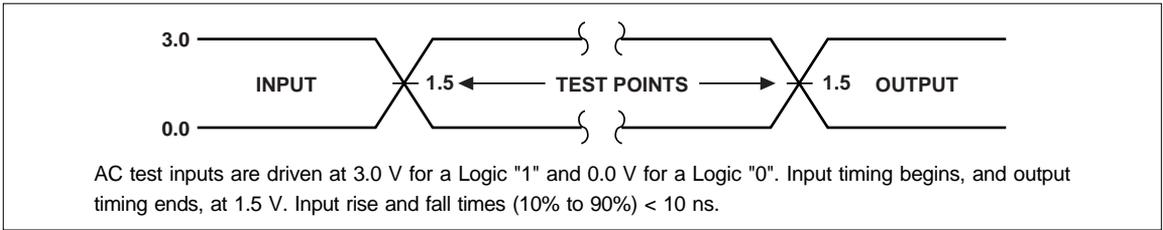
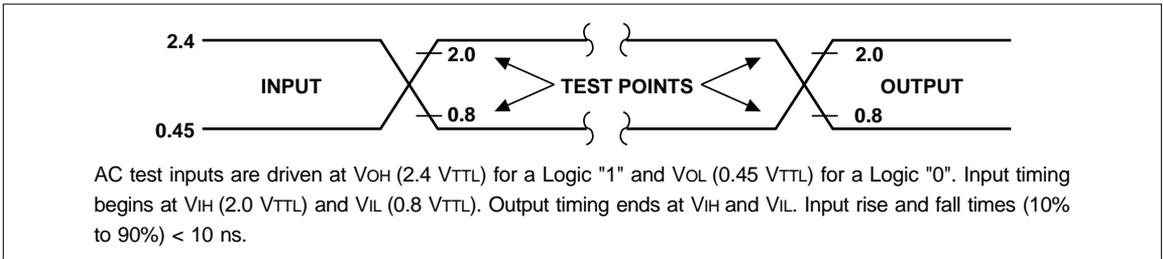
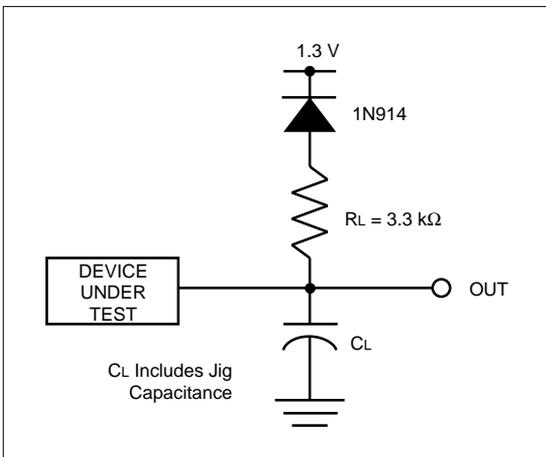

Fig. 12 Transient Input/Output Reference Waveform for  $V_{CC} = 5.0 \pm 0.25 \text{ V}$  (High Speed Testing Configuration)
Fig. 13 Transient Input/Output Reference Waveform for  $V_{CC} = 5.0 \pm 0.5 \text{ V}$  (Standard Testing Configuration)
Fig. 14 Transient Equivalent Testing Load Circuit
- See AC Input/Output Reference Waveform (Fig. 12 and Fig. 13) for maximum allowable input slew rate.
- See Fig. 12 "Transient Input/Output Reference Waveform" and Fig. 14 "Transient Equivalent Testing Load Circuit" (High Speed Configuration) for testing characteristics.
- See Fig. 13 "Transient Input/Output Reference Waveform" and Fig. 14 "Transient Equivalent Testing Load Circuit" (Standard Configuration) for testing characteristics.